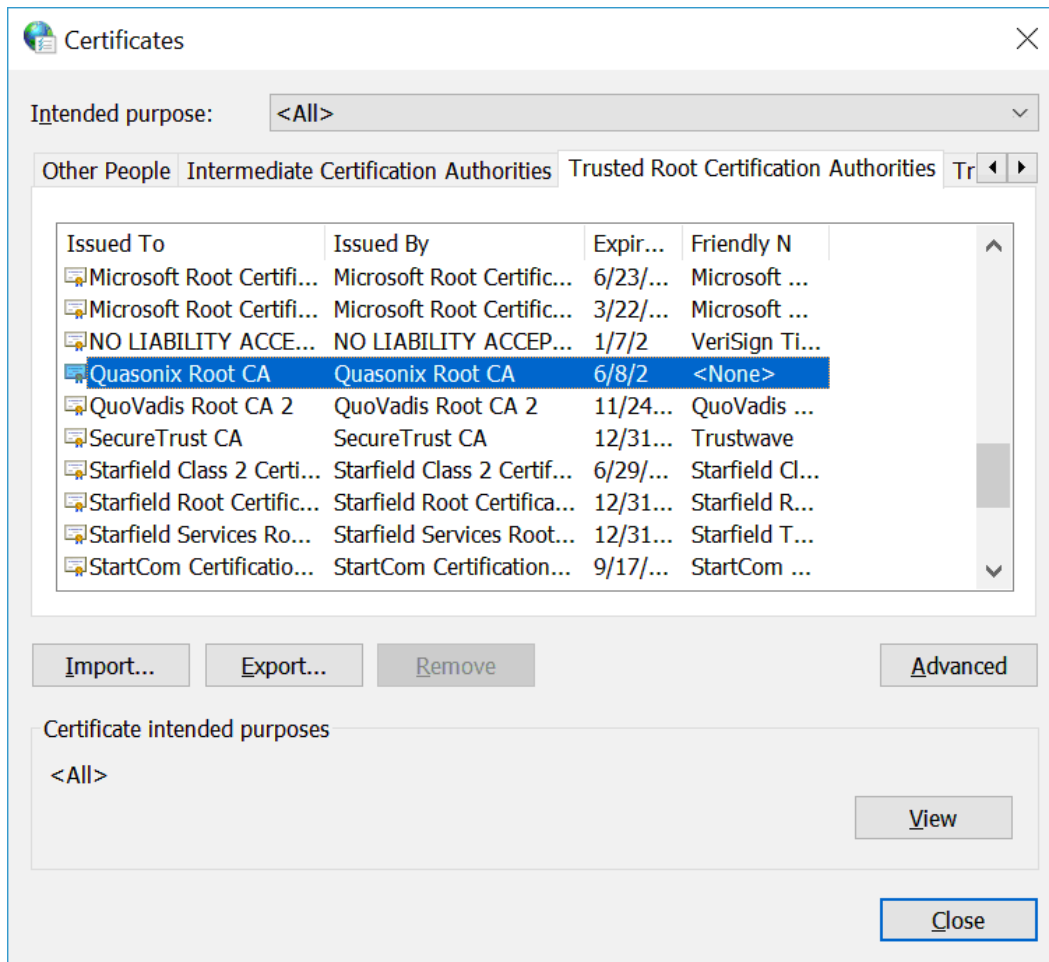

Figure 341: Certificates, Quasonix Certificate Imported
10. View the list of Certificates under Trusted Root Certification Authorities, and verify that Quasonix Root CA is listed, as shown in Figure 341.